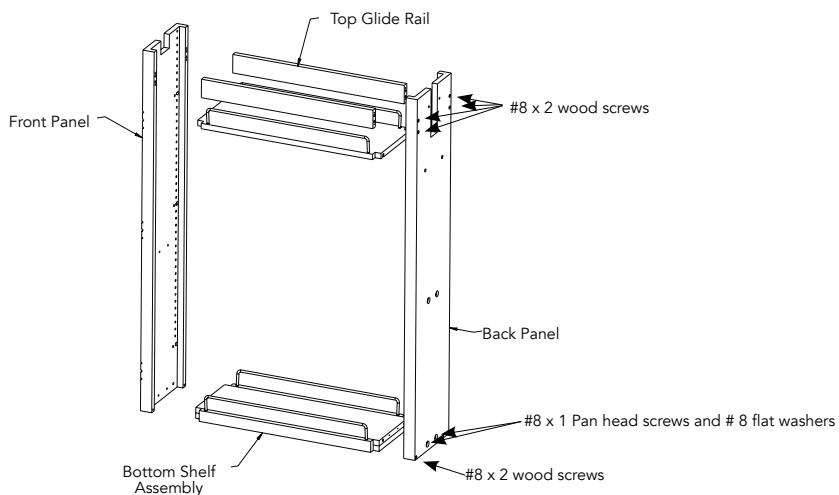

FIG. 4A
Attach the floating back plate to the pantry's rear while ensuring it is in its lowest position. Insert the tapered barrel nuts (5" pantry will only require a single barrel nut) into the slot of the floating back plate and secure it through the front of the back panel with (1) or (2)\* 1/4-20 x 1 flat head machine screws (See Fig. 4A and 4B).